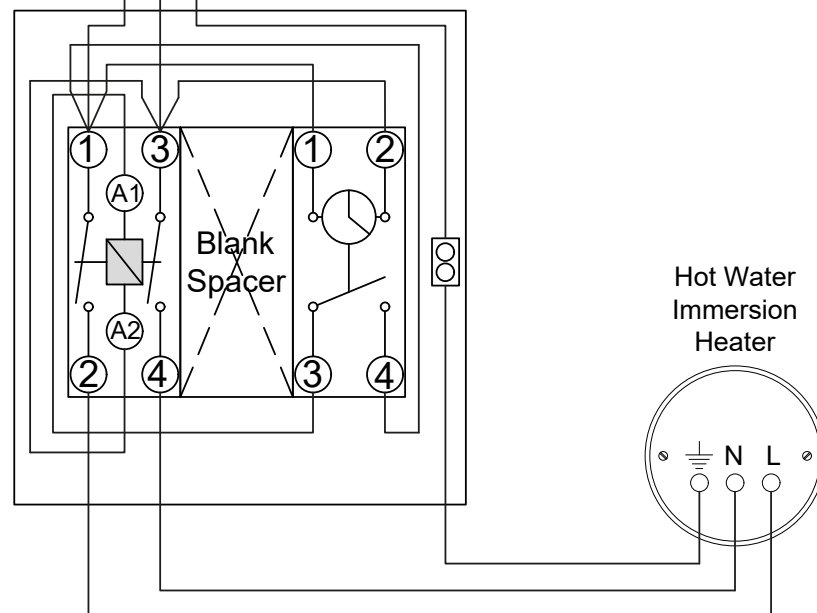

Figure 5-2: Immersion Programmer wiring diagram
When installed, this programmer interrupts the electrical supply between the existing immersion heater switch and immersion heater. Refer to Figure 5-2 for electrical connection details.
**Do not alter the pre-wired connections within the enclosure and only make the external connections as shown in the wiring diagrams. See Figure 5-2.**